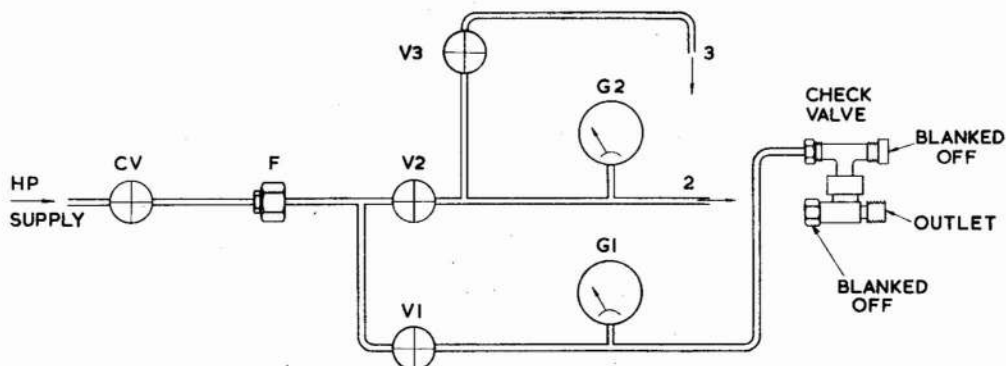

Fig. 3. Test rig, flow test, check valves, 6D/2162, 6D/2167 and 6D/2264
6. (1) Reconnect the check valve to pressure and leak test rig as shown in fig. 3.